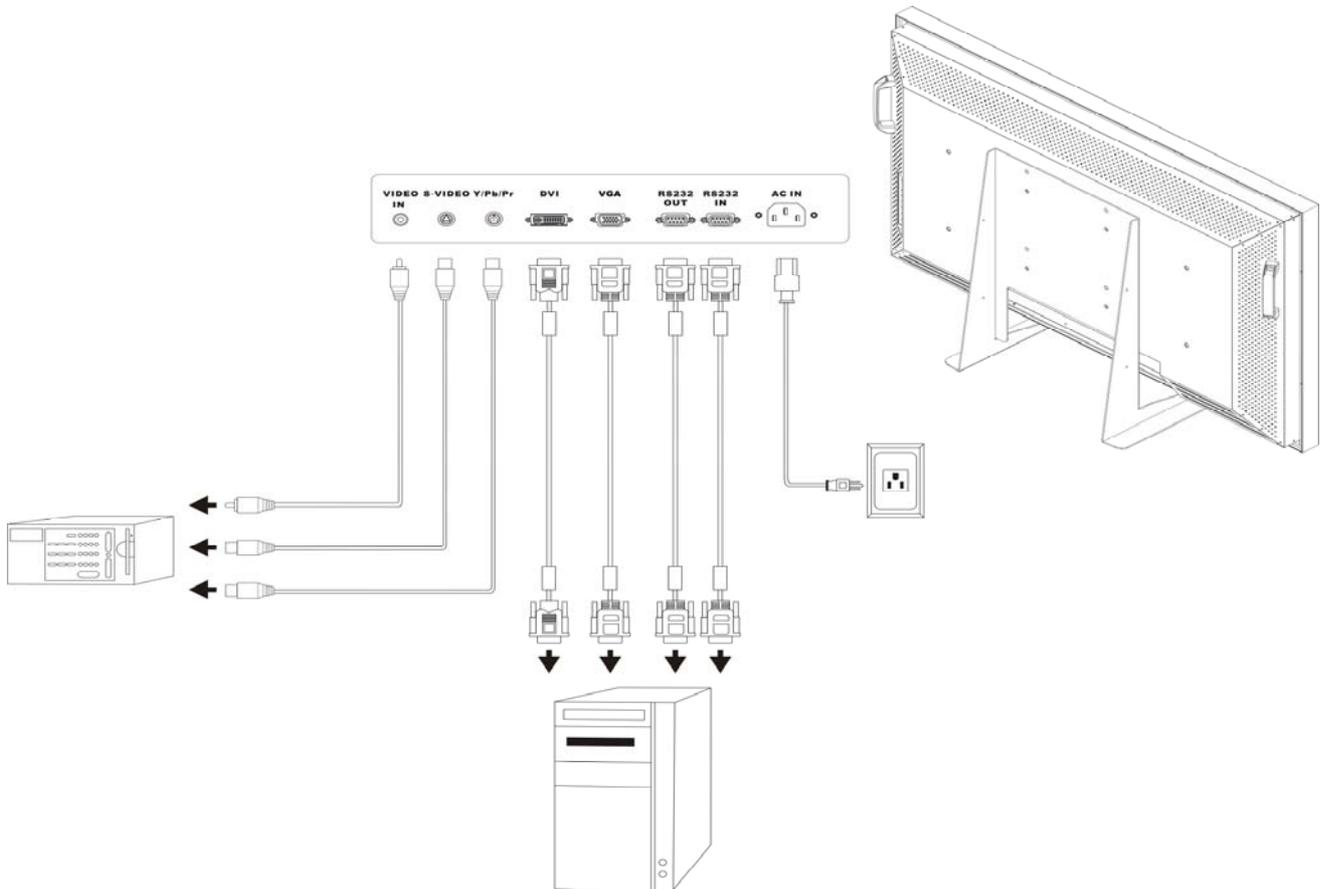

Figure A-01
**For the PC with Analog output** Connect the 15-pin VGA signal cable to the connector of the display card in your system(Figure A-01).
**For the PC with Digital output** Connect the DVI-D signal cable to the connector of the Display card in your system(Figure A-01).
3. Connect the DVI signal cable to the connector on the back of the monitor. Place the video signal cable (Figure A-01).